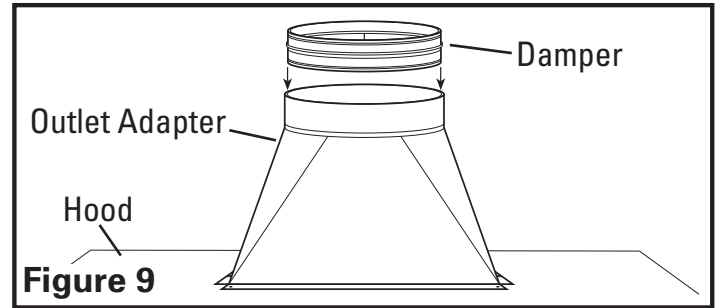

Figure 9
3. It is highly recommended that a back draft damper be installed to prevent outside air from flowing back into the home. Choose a back draft damper (available separately) sized to fit the diameter of the outlet adapter. Attach the back draft damper into the outlet adapter, press fit it into the round opening of the adapter until it is fully seated, making sure the damper opens away from the hood otherwise airflow will be restricted (Figure 9).